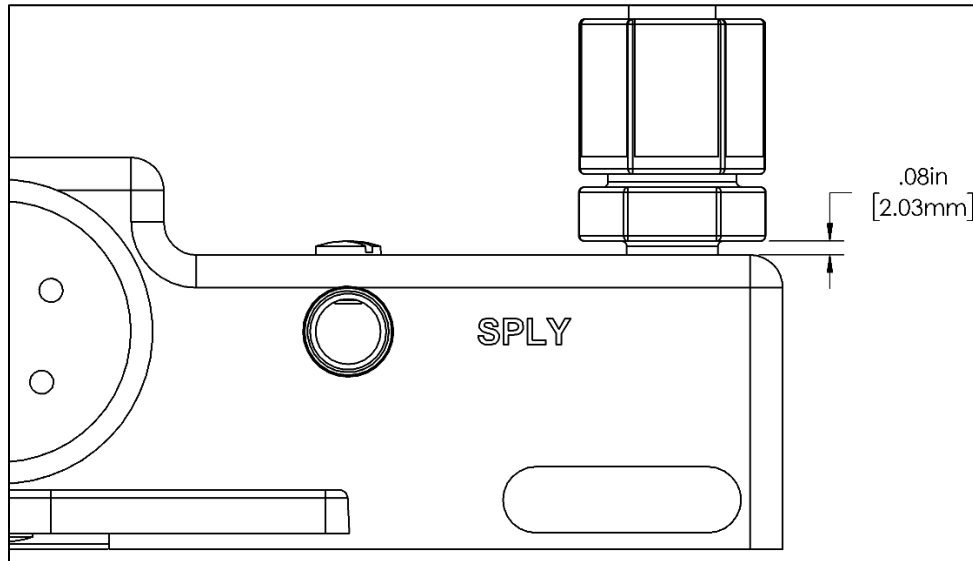

Figure 4-3: Jaco Fitting Final Position
- **Perform this step only if the Jaco fitting was removed during disassembly.** Apply PTFE thread tape to the NPT threads on the Jaco fittings. Do not tape more than $\frac{1}{2}$ of the threads. Thread the fittings into pump base - depth is .08 inch from bottom of wrench hex to top of pump base as shown. See Figure 4-3. Loosen the nut.